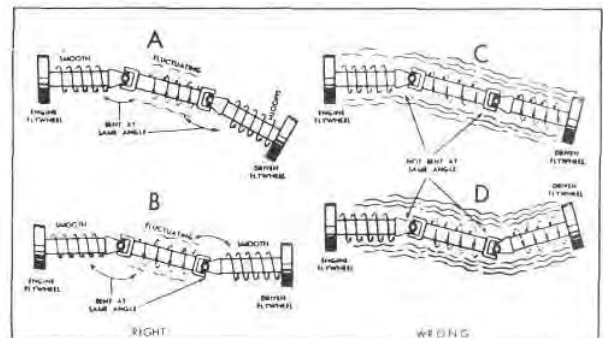
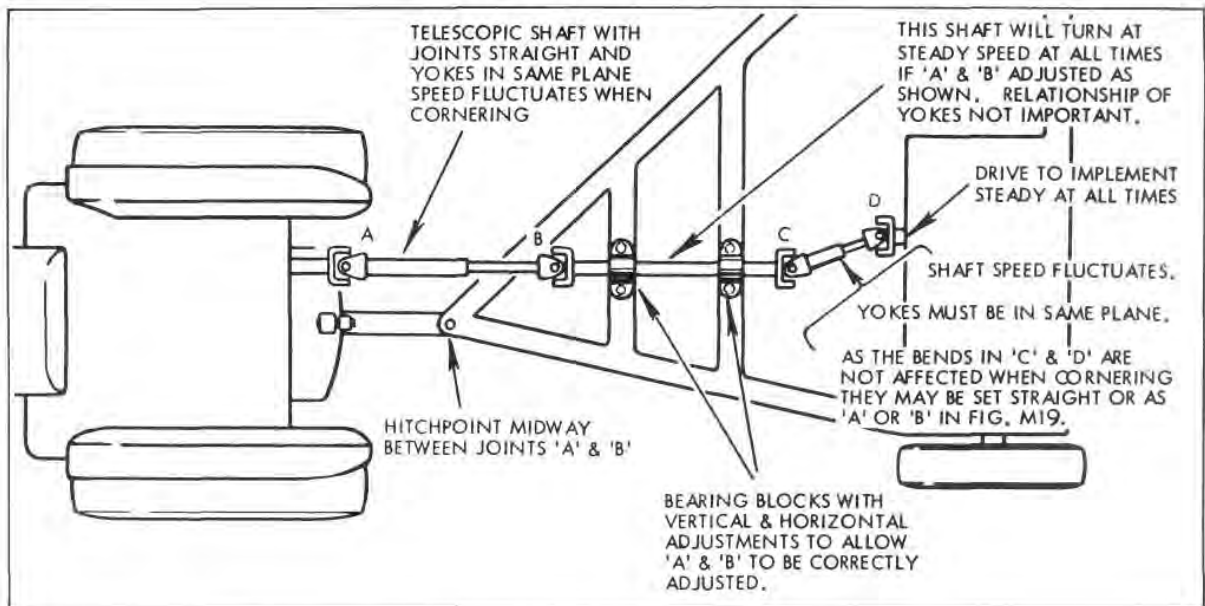

Fig. M18 — Coupling Shaft Action
Fig. M20 — Correct Hitching and Two Additional Joints
If adjusted in this manner the shaft ends can safely be connected to heavy revolving parts without damage. (See Fig. M18).
- (a) Straight or bent as (A) in Fig. M18, viewed from above and from the side.
If two additional joints are provided (making a total of four joints) they must be adjusted as A or B in Fig. M18. (See Fig. M20).